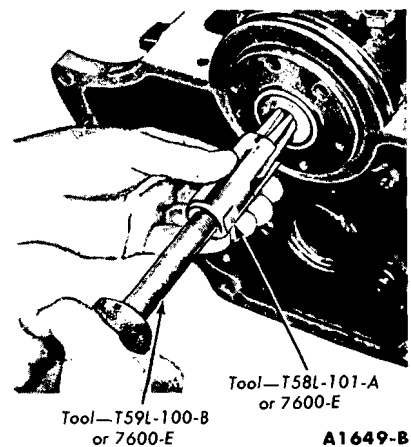

FIG. 60—Clutch Pilot Bushing Removal
2. Remove the pilot bushing as shown in Fig. 60.